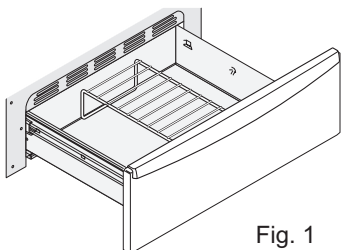

Fig. 1
- In the **upright position** to allow low profile food items to be placed both under and on top of the rack (for example, rolls or biscuits on top of the rack and a casserole dish under - See Fig. 1).